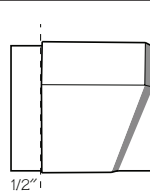

Figure 2
- 2** Stand one leg on a flat surface oriented as shown in Figure 2. Position the toe kick overlay behind the leg and aligned with your pencil line. (Standing the leg and toe kick overlay in an upright position on a flat surface ensures that they are flush at the bottom.)